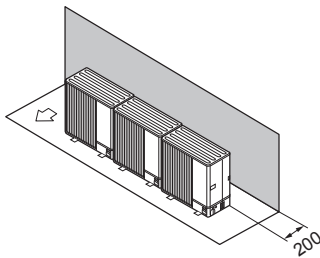

Fig. 1-13
- ① Obstacles at rear only (Fig. 1-13)